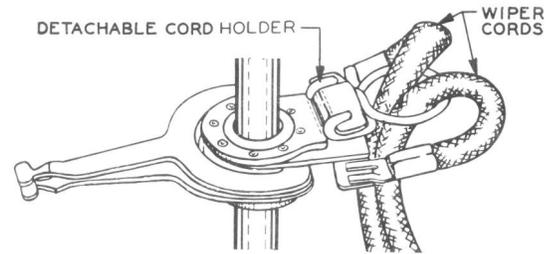

Fig. 27—Method of Dressing Wiper Cords When Detachable Cord Holder is Used
3.32 When all of the wiper cords have been inserted into the holder, slide the holder up along the cords to a position opposite the lug of the wiper assembly with which the holder is to be associated so that one of the hooks of the holder is opposite the left ear of the lug and the other hook is opposite the right ear of the lug. Place the left hook over the left ear of the lug, and while holding the shaft in position to prevent the possibility of damaging the shaft, slide the other hook of the holder around the front edge of the wiper lug until that hook snaps over the associated ear of the lug as shown in Fig. 27. When mounted as described, the hooks of the cord holder will be up.
3.33 Dress the cords that are connected to the wiper as shown in Fig. 27. After dressing the cord, make sure that there is appreciable clearance between the detachable holder and the cord tips. If the clearance is not satisfactory, adjust the cord tip or soldering lug as required with the 485A pliers.
3.49 Remove detachable commutator cord holders which are the same as the detachable wiper cord holder shown in Fig. 27 as described in 3.22 and 3.23 or 3.26 and 3.27, and install them as covered in 3.28 and 3.34, except that the cord holder is mounted on a commutator cord holder bracket and that the hooks of the cord holder will be up.